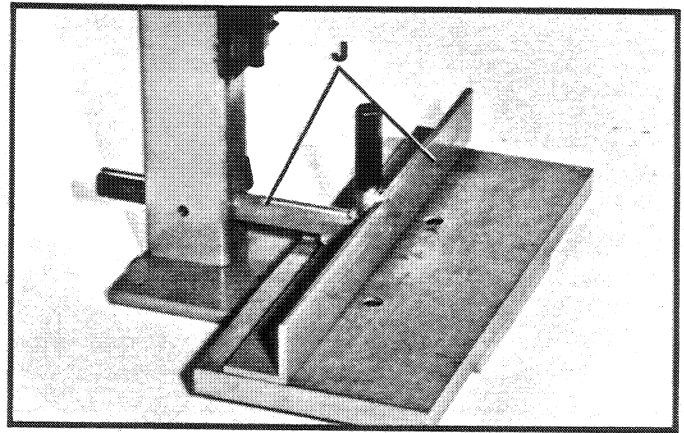

Fig. 7
6. Insert bar of fence assembly (J) Fig. 7, through hole in column, as shown.